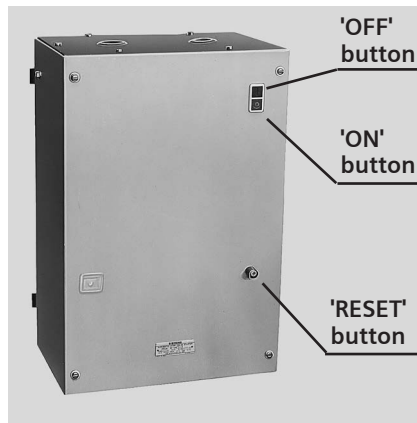

Fig. 8 Starter front view
- First start the motor by pressing the 'ON' button as indicated in fig. 8.
- For starting the motor, press green push button, marked 'I' (fig. 8).
- For stopping the motor, press red push button, marked 'O' (fig. 8).
- In case of hand reset type overload relay, press blue push button, marked 'R' (fig. 8) for resetting, after the relay has tripped due to overload. In this case you can restart the motor only if you reset it.